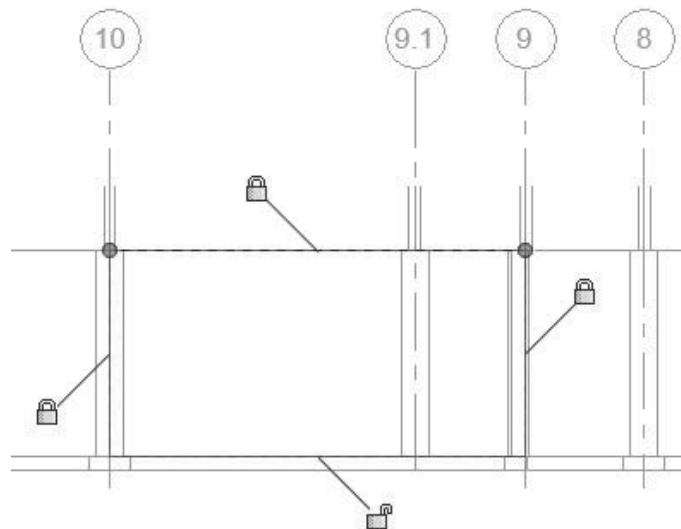

Figure 7–69
5. Using the dimensions shown in Figure 7–70, modify the wall's profile. (The dimensions shown in the figure are for information only.)